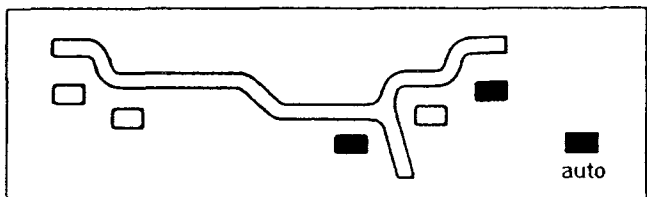

Fig.40
J. **AUTO ALU6.** The wheel weights position is as indicated in Fig.40. In this case use one hidden tape weight on the inside and a clip-on weight on the outer edge.